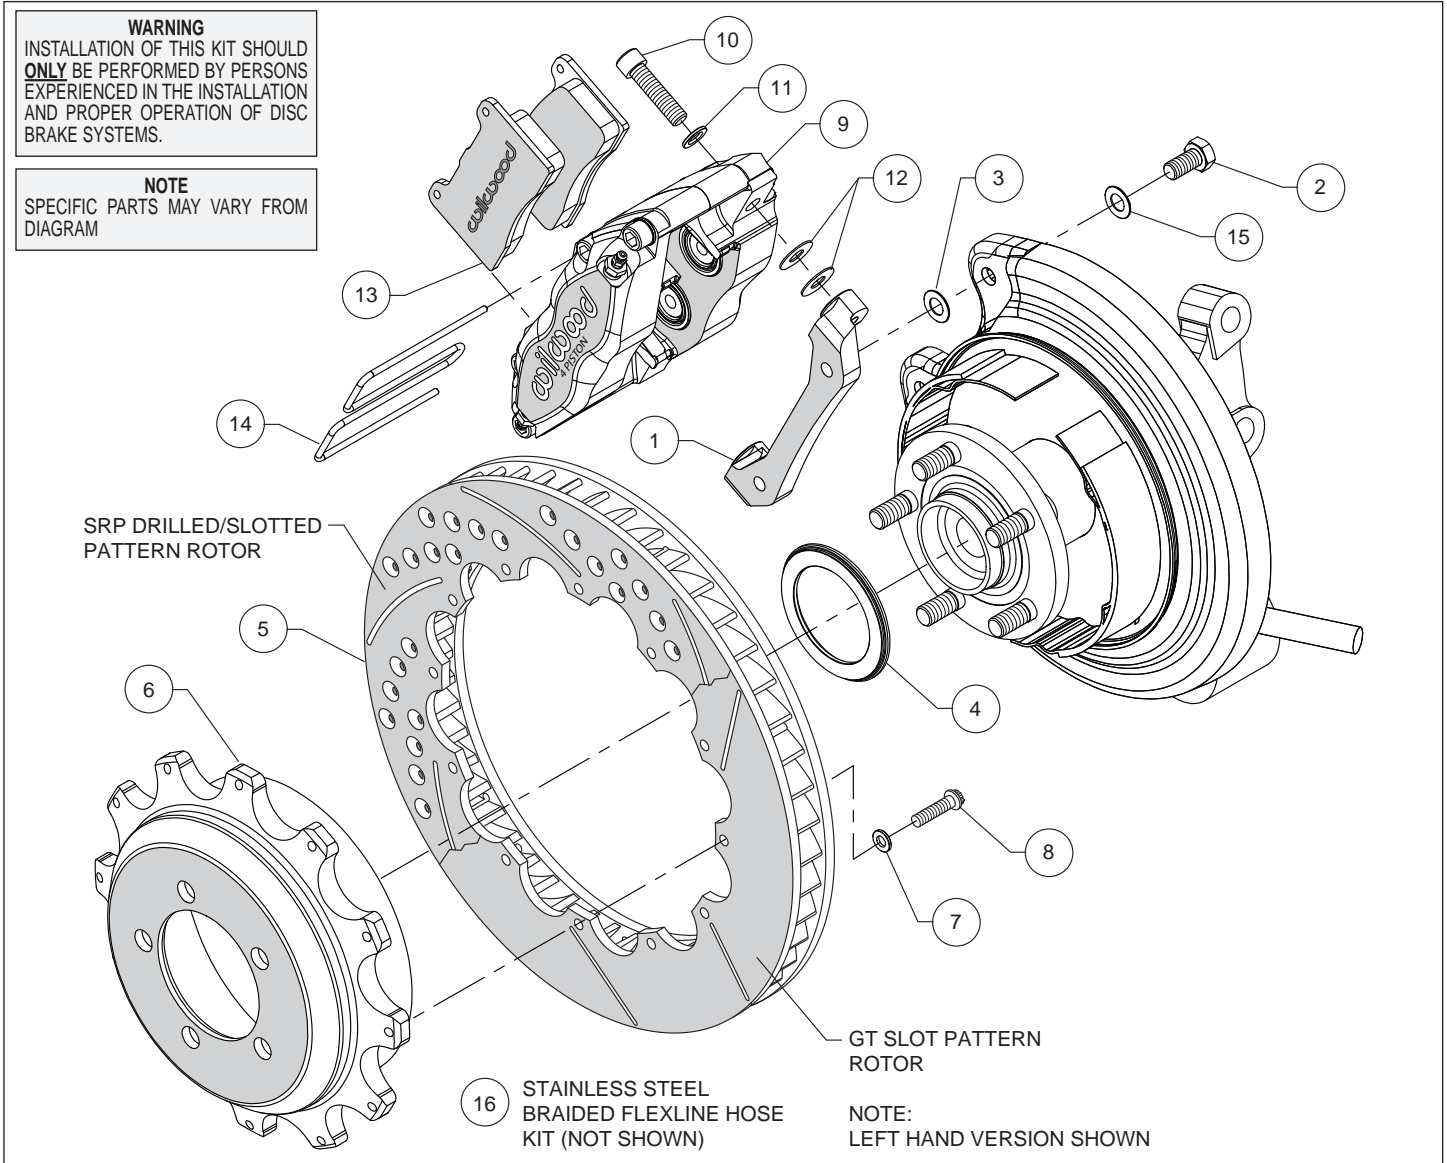
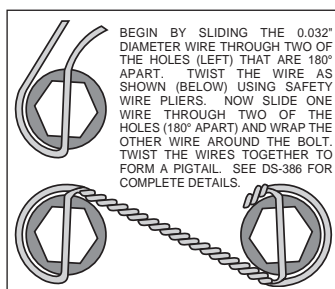

Figure 1. Typical Installation Configuration
Figure 3. Safety Wire Diagram
Assembly Instructions (numbers in parenthesis refer to the parts list and Figure 1 on the preceding pages):
- The caliper mount bracket (1) should initially be installed with clean, dry threads on the mounting bolts. Orient the bracket as shown in Figure 1 and Photo 3, and install using washers (15) and bolts (2). Initially place one shim (3) on each bolt between the bracket and upright, Figure 1. Temporarily tighten the mounting bolts. **NOTE: The bracket must fit squarely against the mount bosses on the upright.** Inspect for interference from casting irregularities, machining ridges, burrs, etc. Later, after the caliper alignment has been checked, the mount bolts will be secured using red *Loctite*® 271.
- Orient the rotor (5) and the hat (6) as shown in Figure 1 and Photo 4. Attach rotor to hat using bolts (8) and washers (7). Using an alternating sequence, apply red *Loctite*® 271 to the threads, and torque to 140 **in-lbs**. For an added measure of security, the bolts may be safety wired using standard 0.032 inch diameter stainless steel safety wire as shown in Figure 3.
- Slide the rotor registration adapter (4) onto the axle register on the axle hub with the smaller O.D. facing outward, Photo 5. Slide the hat/rotor assembly onto the axle hub. **NOTE: The hat must fit flush against the axle hub flange or excessive rotor run out may result.** Install three lug nuts (finger tight) to keep the hat/rotor assembly in place while continuing with the installation.
- Mount the caliper (9) onto the bracket (1) using bolts (10) and washers (11), Figure 1 and Photo 7. Initially place two .035" thick shims (12) on each bolt between the caliper and bracket as shown in Figure 1 and Photo 6. Temporarily tighten the bolts and view the rotor through the top opening of the caliper. The rotor should be centered in the caliper, Photo 8. If not, adjust by adding or subtracting shims (3) between the bracket and the upright. Once the caliper alignment is correct, remove the bracket mounting bolts one at a time, apply red *Loctite*® 271 to the threads, and torque to 35 ft-lb.
- Install the disc brake pads (13) into the caliper, with the friction material facing the rotor, as shown in Photo 9. Check that the top of the brake pad is flush with the outside diameter of the rotor, Photo 10. If not, adjust by adding or subtracting shims (12) between the caliper and the bracket. After the caliper pad height